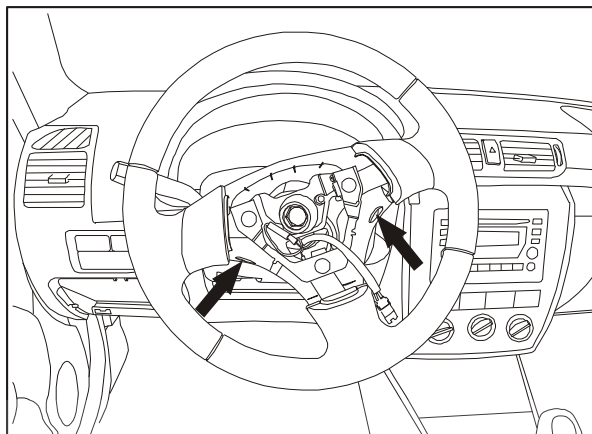

Figure 6-11 Disassembly of air bag
2. Screw off the two erection bolts for air bag and take out the air bag for driver as shown in Figure 6-11.